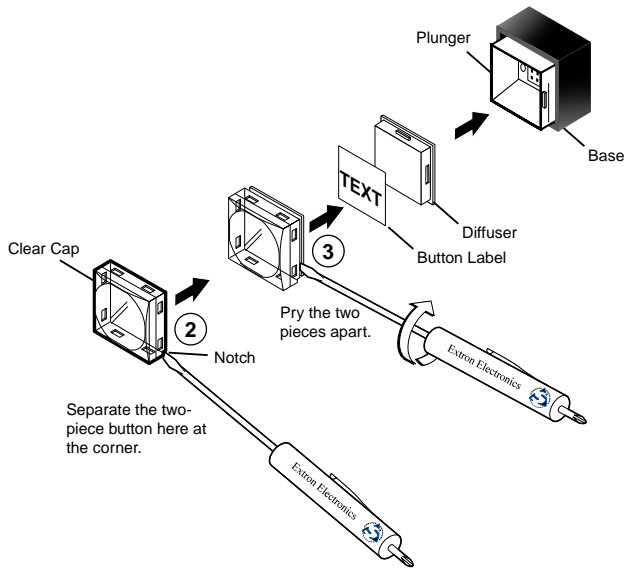

Figure 3. Replacing a Button Label
By default, the SCP button caps are prelabeled for your convenience. However, they can be customized. The button assembly consists of a clear lens cap, the button label, and a white diffuser (see figure 3 on the next page).
2. Locate the small corner notch on the clear cap, and slide the screwdriver between the clear cap and the diffuser (see ② in figure 3).
3. Using a rotating motion of the screwdriver, carefully pry the two pieces apart (see ③ in figure 3).